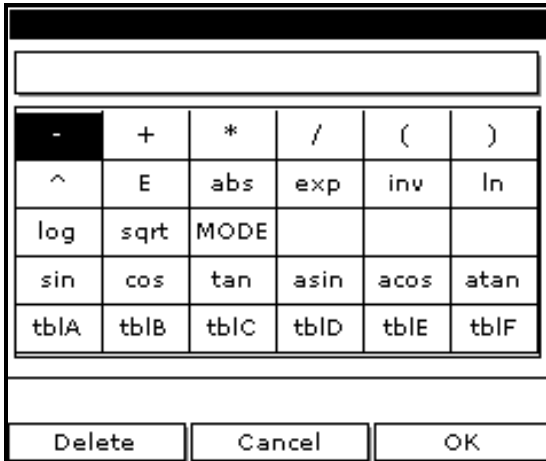

Figure 26: Function Creation Window
1. Use the arrow keys to move to the blank box at the bottom of the screen and press [ENTER]. A screen similar to Figure 26 appears.